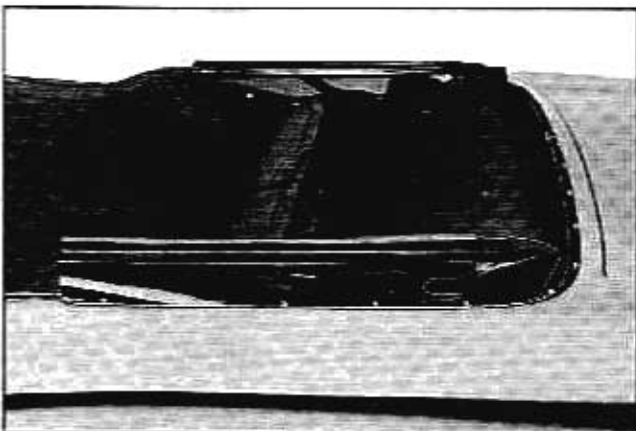

Fig. 7-9 Turn Top Material Forward
9. Place material over folding top (Fig. 7-9).